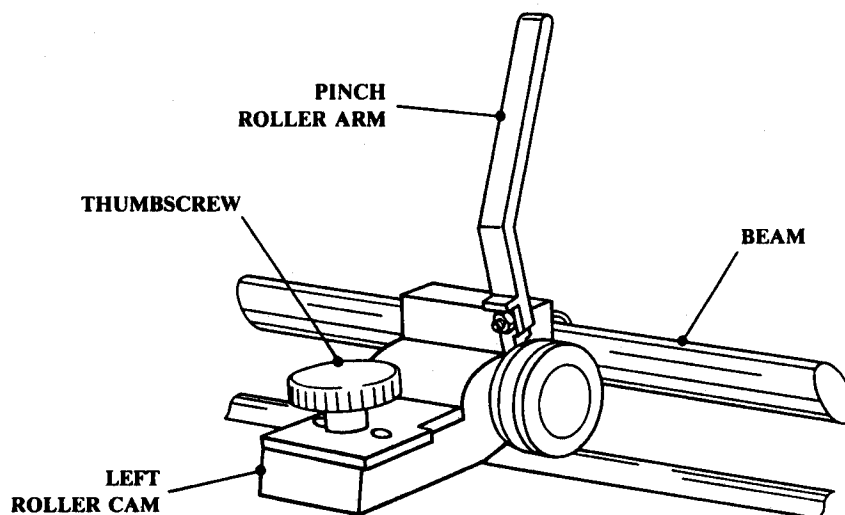

FIGURE 0-2. LEFT PINCH ROLLER ASSEMBLY AND THUMBSCREW
- ☐ Raise the left pinch roller arm. See Figure 0-2.